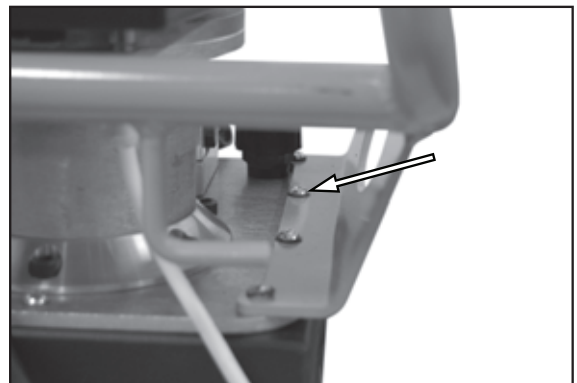

Figure 23.
2. See Figure 23. Remove and discard the eight screws.